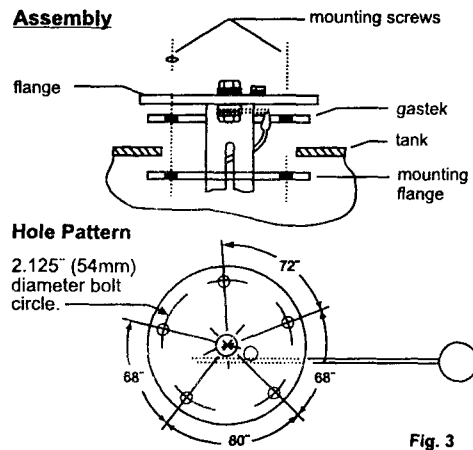

Fig. 3
2. Refer to Fig. 3 and slide the rubber gasket up to the bottom of the fuel sender flange. Next, slide the second flange over fuel sender to bottom of rubber gasket. Align the pre-threaded holes in mounting flange and rubber gasket with those in fuel sender flange. Use 25 mm screw to loosely attach mounting flange. Do not tighten completely.